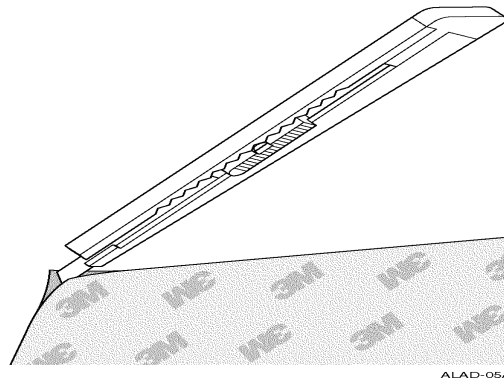
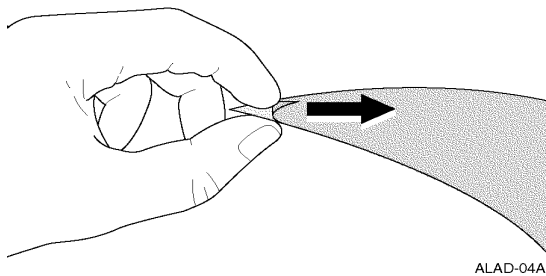
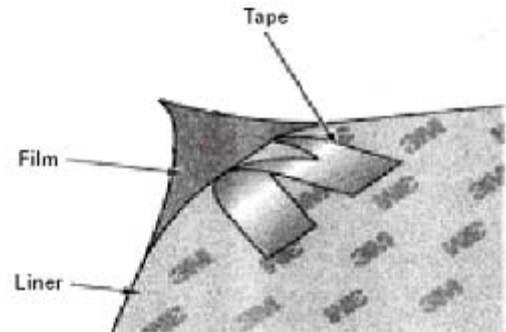

Figure 1: Separate Tape and Adhesive Liner with Blade
Figure 2: Roll liner corner away from tape
Figure 3: Remove liner with a piece of tape
Method 1: While holding the tape near a corner in one hand, carefully separate the tape and liner at the corner using a utility knife. See Figure 1. As the liner and tape separate, fold the liner over to keep them separated and assist in gripping and pulling them apart. Applying a piece of strapping (filament) tape or packaging tape to the adhesive liner (3M logo side) at the corner will assist initiating removal of the liner.
Method 2: While facing the adhesive liner side (3M logo side) and holding the tape near a corner in one hand, bend and roll the edge near the corner with your thumb towards the liner side. See Figure 2. Repeat several times until the liner separates from the tape. Carefully grip the separated liner between fingertips and pull away from the tape. This method is somewhat difficult and requires the ability to grip 1/16”– 1/8” tape. Applying a piece of strapping (filament) tape or packaging tape to the adhesive liner (3M logo side) at the corner will assist initiating removal of the liner. See Figure 3.
8. If using Polyurethane Protective Tape 8694, remove the topside liner before proceeding. A piece of packaging tape or strapping (filament) tape may be applied to a corner of the liner to aid removal. See Figure 3.
5. Separate 4-8 inches of adhesive liner from the tape. See Figure 1 and Figure 2. Fold the released liner away from the exposed adhesive.
12. Remove the topside liner of each sheet before the adjacent tape is applied. A piece of packaging tape or strapping (filament) tape may be applied to a corner of the liner to aid removal. See Figure 3.